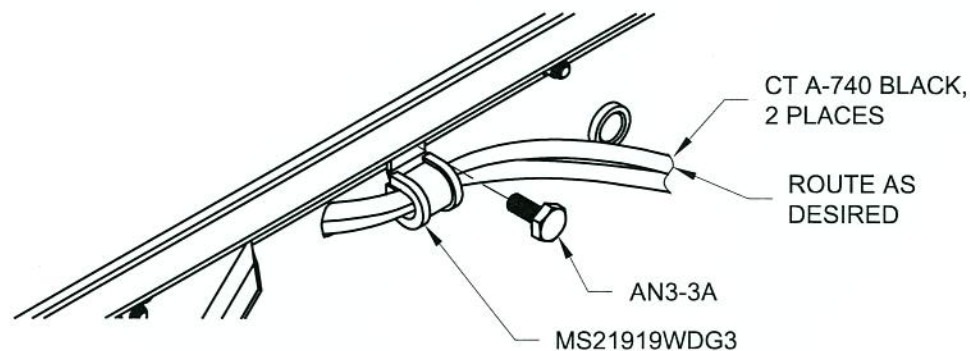

FIGURE 3: CLAMPING THE CABIN HEAT CABLES TO THE AFT SIDE OF THE FIREWALL
Step 4: Connect the CT A-740 BLACK Push Pull Cables to the TG-10-L and -R Heat Selector boxes. Clamp the cables to the Firewall Bulkhead Assembly with cushioned clamps. Route the cables to the instrument panel or other locations in the fuselage as desired. Safety wire the push pull cables to the cushioned clamps on top of the heat selector boxes. Fill the penetration hole for the push pull cables in the firewall bulkhead assembly with RTV. See Figure 2 and Figure 3.